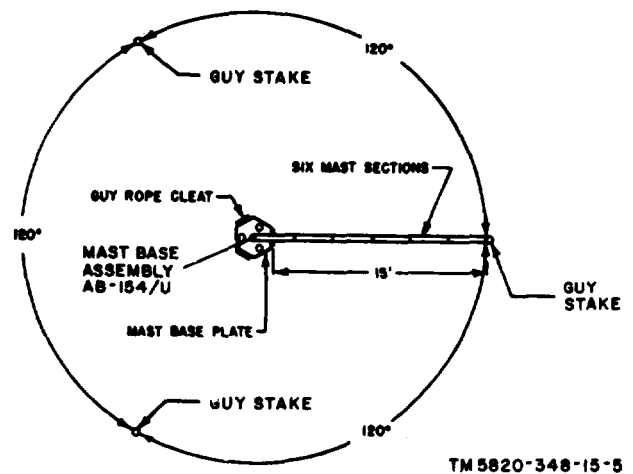

Figure 2-2. Positioning guy stakes.
(fig. 2-2)
c. Drive three guy stakes at a 45-degree angle into the earth facing away from the mast, (fig. 1-1) 15 feet from the centers of the cleats on the baseplate (fig. 2-2). The three stakes will then be 120° apart. The distance of 15 feet is equal to the length of six mast sections fitted together.
- (1) Assemble six Mast Sections AB-35/TRC-7 by inserting the male ends into the female ends, and place the bottom section of the assembly over the moveable portion of the AB-154/U (fig. 2-2).
- (2) Assemble five additional Mast Sections AB-35/TRC-7 and join them with the six already assembled, inserting one guy plate between the